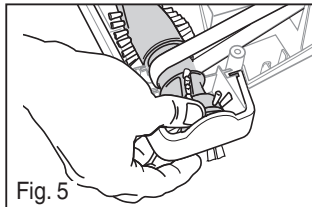

Fig. 5
- Attach tool to end of wand. Stretch hose as needed (Fig. 5).
Use for furniture, drapes and vents. Push dusting brush onto end of wand (Fig. 5).
- Use fingers to clear blockage from hose and valve assembly (Fig. 5).
- Insert left end of brush roll first. Make sure end cap fits into base. Pull right side of brush roll to stretch belt and insert right end cap into base (Fig. 5). Make sure it slides into position.